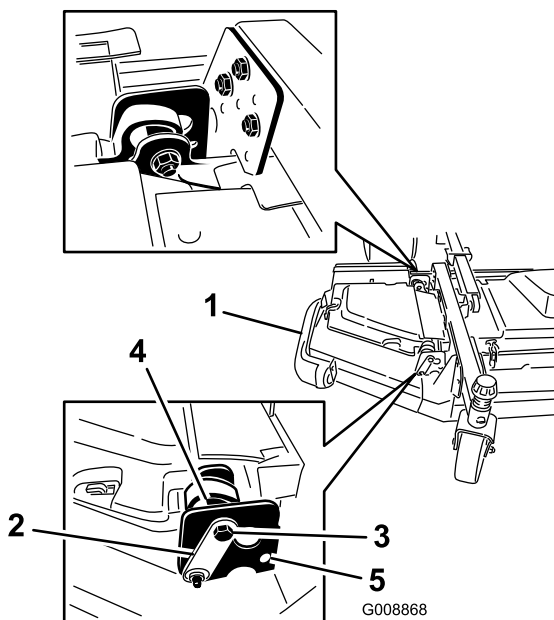

Figure 7
2. Loosen the bolts and nuts securing the 2 eccentric spacers to the winglets (Figure 7).
- Rotate the rear (closest to the traction unit) eccentric until the outside blade tip is about 3 mm (1/8 inch) higher than the desired height of cut (Figure 7).